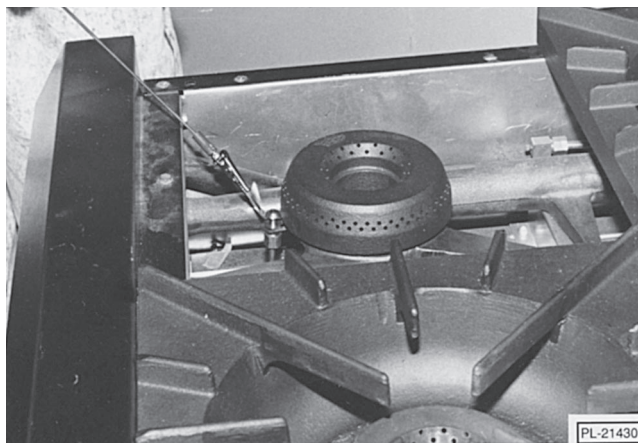

Fig. 10
2. Wait 30 seconds and, using a taper, light the open top pilot (Fig. 10).